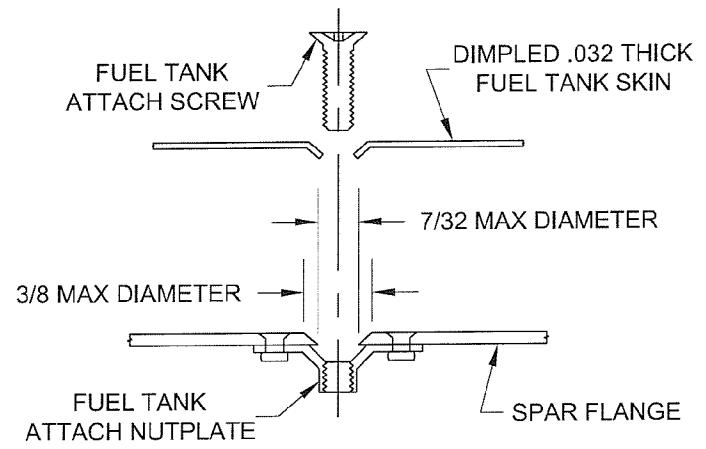

FIGURE 2:
Step 5: Machine Countersink the fuel tank attach screw holes. See Figure 2 for details of the countersunk hole. Make a dimple test sample by drilling #19 and dimpling a scrap of .032 aluminum for a #8 flush head screw. Use a #30 pilot countersink cutter in a microstop countersink cage to enlarge the screw holes in the spar just enough for the test dimple to fit smoothly. The #30 pilot will center in the nutplate well enough to keep the countersink round and concentric.